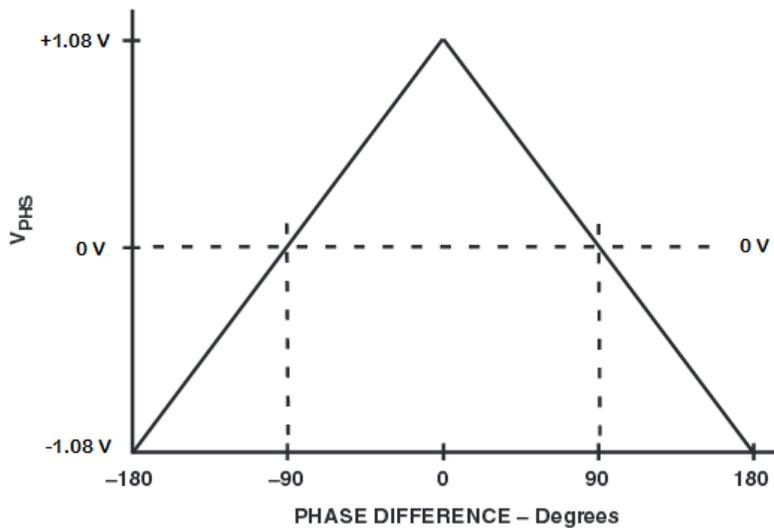

Figure X.3 Phase detector transfer function.
3. The transfer function of the phase detector should be kept in mind when looking at the phase response. As seen in Figure X.3 the output of the phase detector, both a 90 degree shift and a -90 degree shift approach zero volts. The maximum positive phase detector output results when the phase difference is zero degrees.